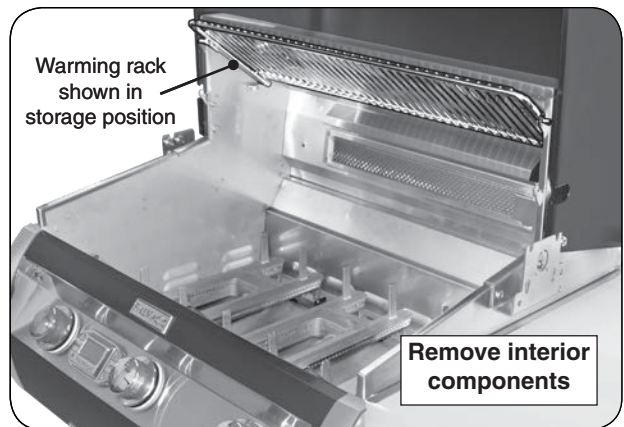

Fig. 32-1 Prepare grill for rotissing
1. Set the warming rack to storage position, remove the backburner cover and cooking grids (see Fig. 32-1).